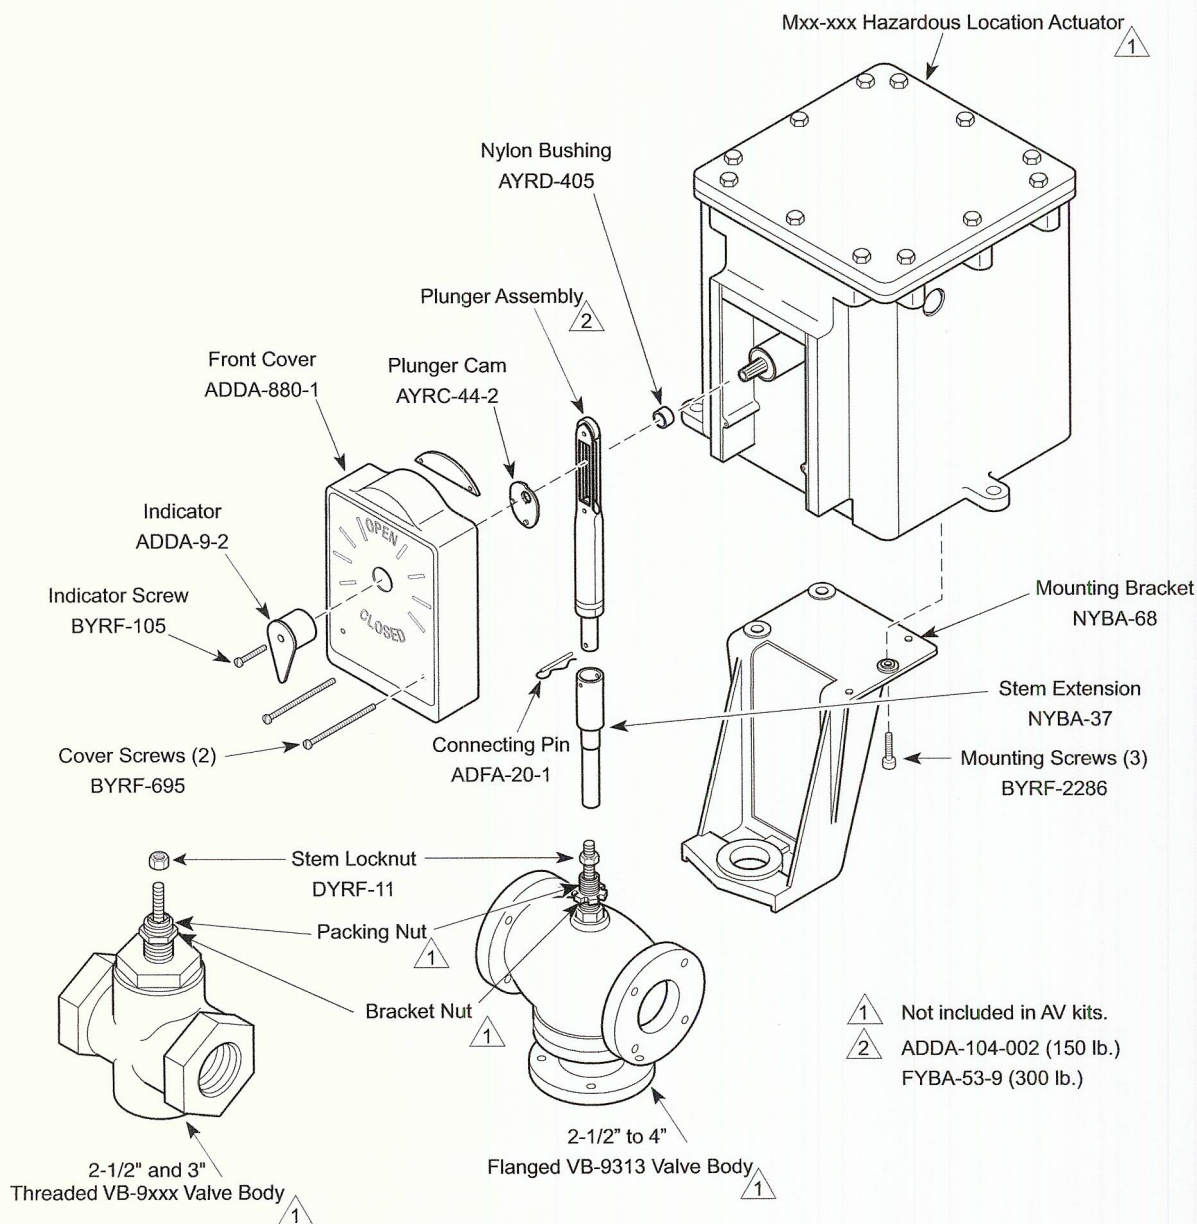

Figure-2 Valve Linkages for Current 2-1/2" to 4" VB-9313 Cast Iron Flanged, and VB-9xxx 2-1/2" and 3" Threaded Bronze Valve Bodies.
1. Mount the bracket onto the valve body by removing the bracket nut, placing the bracket on the valve body, and replacing and tightening the valve bracket nut. See Figure-2. Proceed to step 2 in AV29x Valve Linkage Common Procedure on page 6.